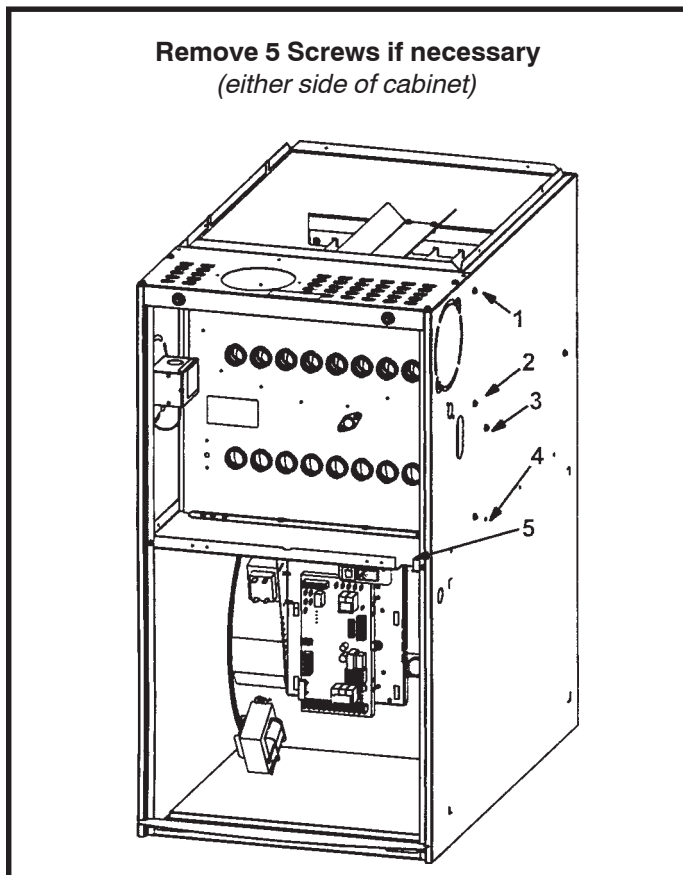

Figure 42
10. Remove heat exchanger. It may be necessary to spread cabinet side to allow more room. If so, remove five screws from the left side or right side of cabinet. See Figure 42.